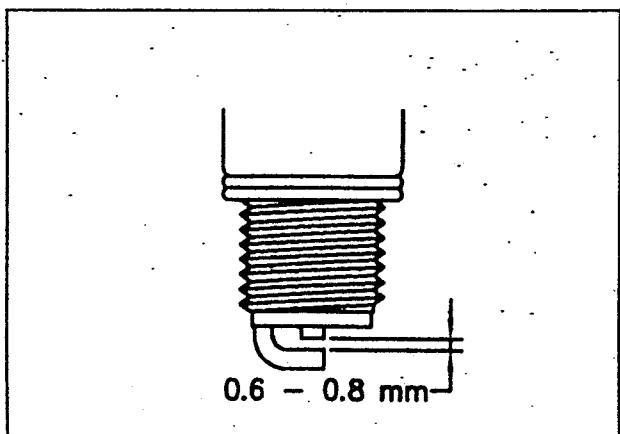

Fig 2.12
- If the centre electrodes is fairly worn down, the plug should be replaced and the plug gap set, to the specified gap using a feeler gauge (fig 2.12)